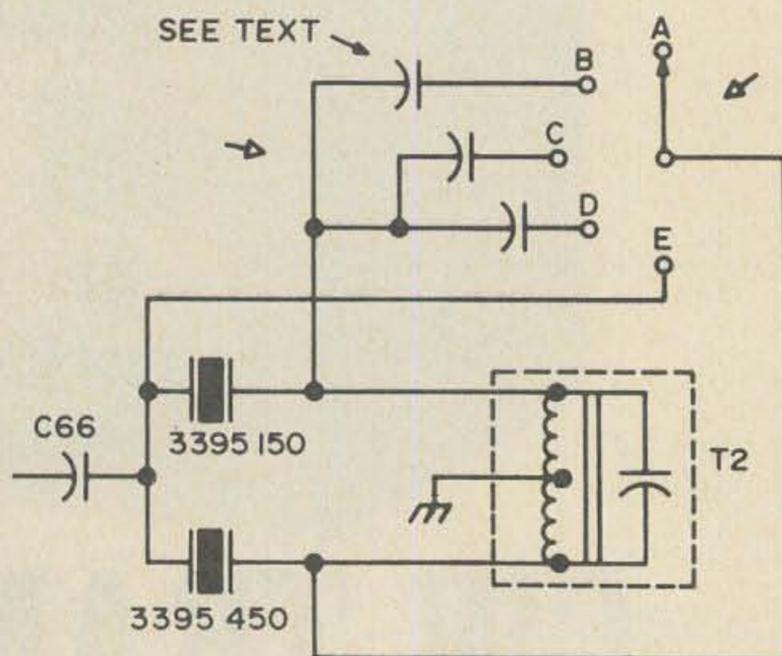

Fig. 3. A multiposition wafer switch can be used to obtain a variety of selectivity bandwidths.
Ever try to copy CW on 40 at night? I do! Even with 500 Hz selectivity it is hard. To make this possible, I installed a 5-position selector switch at the lower right cover of the front panel. The first position (0.5 kHz selectivity) is not used (position A of Fig. 3). The second (B) puts a 15 pF capacitor across the i-f transformer. The third (C) puts a padder (which came out of my junkbox unmarked) across the i-f transformer output, and the fourth position (D) connects a .002 μF capacitor in like man-